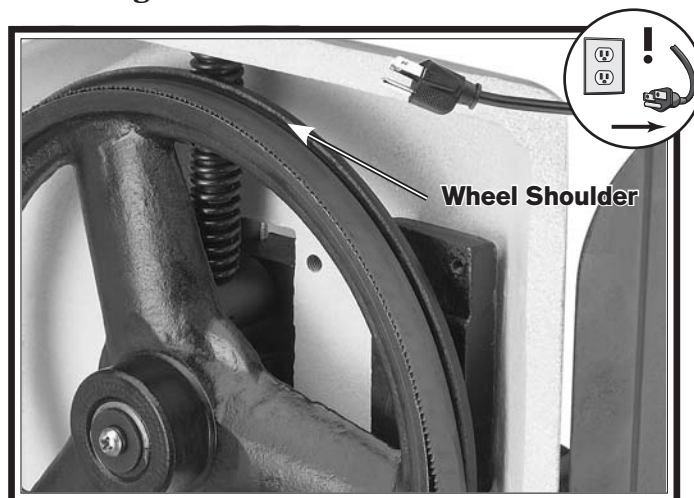

Figure 28. Installing blade around wheel.
6. When the blade is around both wheels, adjust the position so the back of the blade is against the shoulder of the wheels as shown in **Figure 28**.